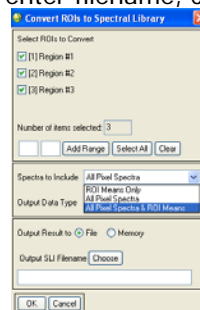

Figure 2. Convert ROIs to Spectral Library
5. The Convert ROIs to Spectral Library box opens and shows the ROIs that were created for this image. Check all boxes (see Figure 2).